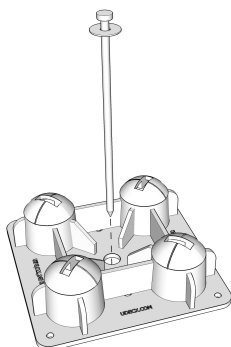

Fig. 5
3. Place an Anchor Spike (D) through the center of the 1" hole in the Pier (A). (Fig. 5) Install the Anchor Spike (D) with a hammer or hand sledge. (NOTE: Be very careful not to hit the Pier (A) with a hammer, hand sledge or other tool that might damage the Pier (A).